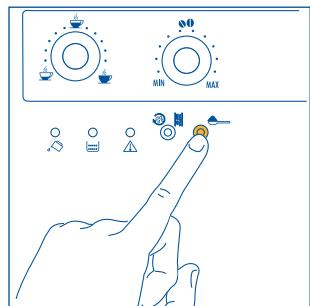

Fig. 18
1. Press the  button to select the ground coffee function (Fig. 18). The ground coffee light will illuminate indicating the function has been selected and the coffee grinder has been disabled.
- press the  button (Fig. 18) repeatedly until the number of lights that are on coincides with the number of red squares on the test strip (for example, if there are 3 red squares on the test strip, press the button  until 3 indicator lights come on together, ,  and ).